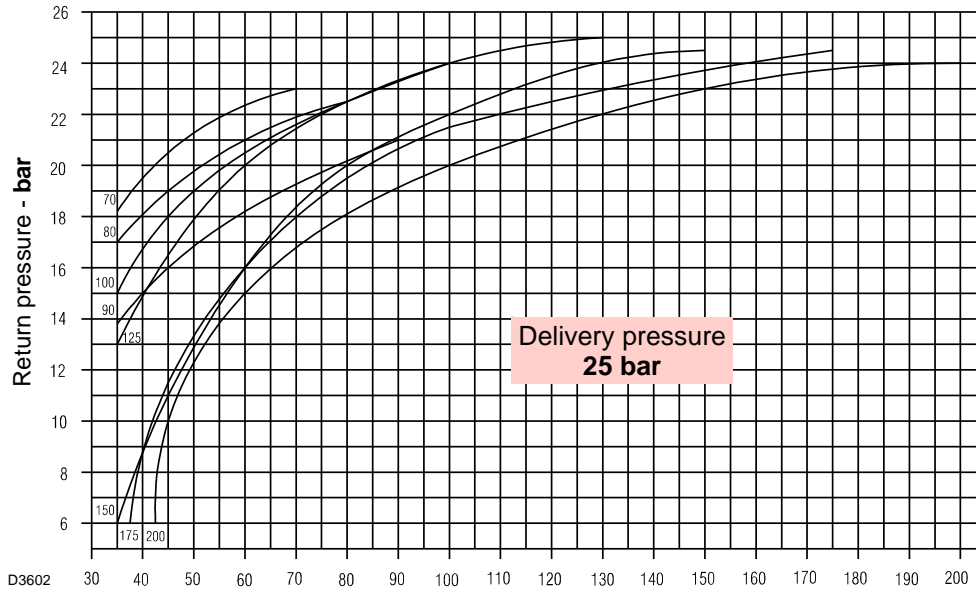
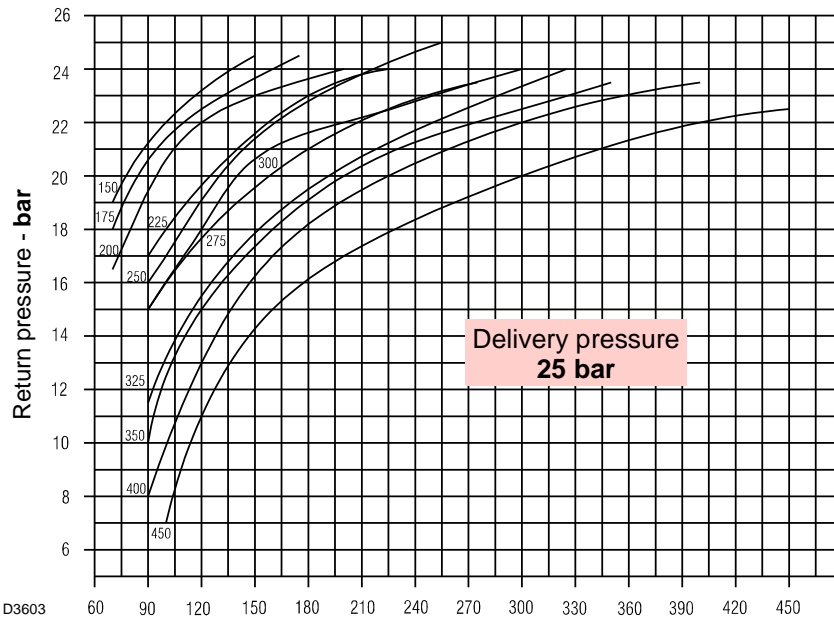

Fig. 12
Fig. 13
To set the delivery range within which the nozzle must operate, adjust max. and min. fuel pressure on return from nozzle in relation to the graphs opposite (Fig. 12 and Fig. 13).
- When the adjustment has been made, manually check that there is no knocking between 20° and 130° and that maximum and minimum pressures match pre-selected values as indicated on the graph (Fig. 12).